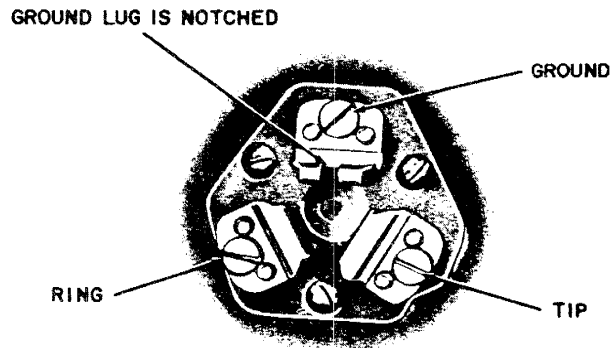

Fig. 9 — Connections for KS-8420 and 8421 Jacks
- (1) Arrange for a 2-11/16 inch hole at location selected for jack installation.
- (2) Temporarily insert jack in hole and mark fastener holes.
- (3) Remove jack and drill fastener holes.
- (4) Connect wire as shown in Fig. 9.
- (5) Secure jack to mounting surface with four No. 8 brass wood screws or No. 8 RH brass machine screws.
- (1) Arrange drop wire or bridle wire and conduit at location selected for installation.
- (2) Secure the jack housing to the mounting surface using suitable fasteners.
- (3) Connect wire to terminal block as shown in Fig. 9.
- (4) Mount terminal block to jack housing.
- (5) Install cover on housing.
- 4.01** Figure 9 shows connections for KS-8420 and KS-8421 jacks.